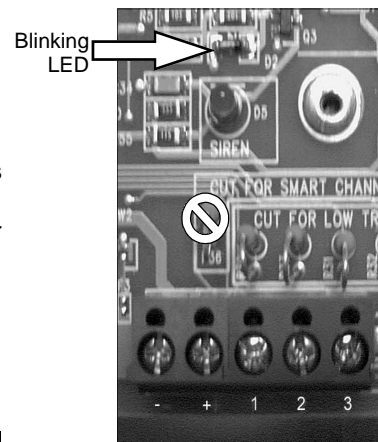

Fig. 5. "Siren Driver" Trigger
SMART CHANNEL SIREN DRIVER TRIGGER FOR INPUT 1 (Fig 5)
- **NOTE:** Observe LED D2 to determine correct polarity. D2 will light (steady or blinking) when connected to the correct SIREN terminal (see Fig. 5).